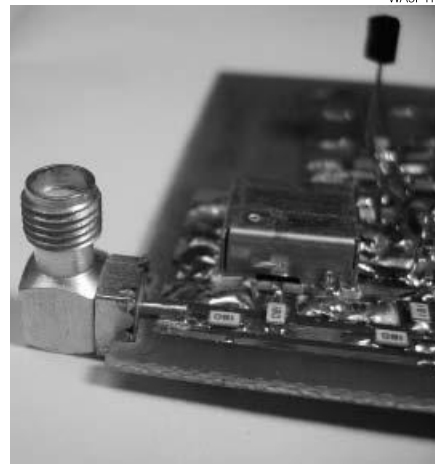

Figure 8 — The SMA output connector solders to the edge of the circuit board.
12) Install the output connector. See Figure 8.